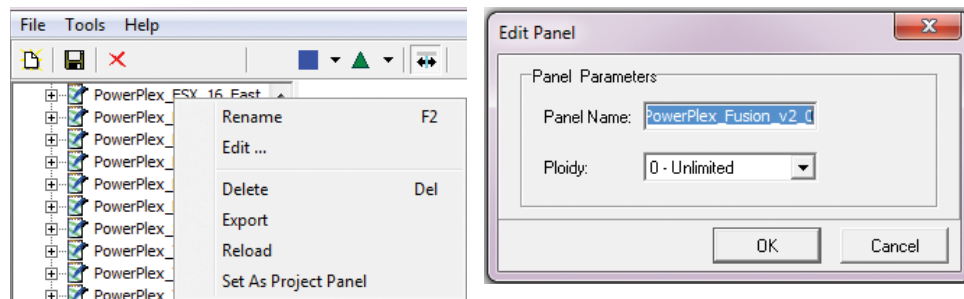

Figure 152. Accessing panel editing options from the Panel File Navigator (left) and the 'Edit Panel' window (right).
Panels can be edited from the Panel File Navigator (Section 8.B). Edits made to a panel listed in the 'Project Panel' folder will apply only to the panels in the open project. To make changes that will apply to all future uses of the selected panel, edit the corresponding panel in the 'Panel Templates' list. Several editing options are available by right-clicking a panel name (Figure 152, left panel).
Edit: Opens the 'Edit Panel' window where you can change the panel name and ploidy setting (Figure 152, right panel). Ploidy can be set from Monoploid (1) to Decaploid (10) or Unlimited (0). If the number of peaks within a marker exceeds the ploidy setting, the additional peaks with the lowest peak heights will be flagged with the Quality Reason 'PL', designating the marker is 'Beyond Ploidy' (Section 10.A.3). When **Unlimited** is selected, peaks are not flagged.